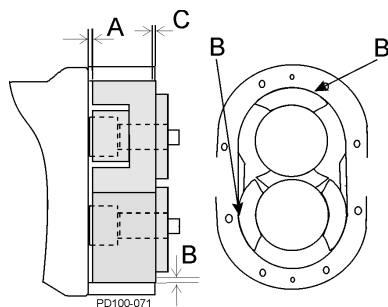

Figure 87 - Measure Clearance
9. Measure the rotor backface clearance (Figure 87, item A) through the port or from the front. The backface clearance for both rotors must be the same to prevent rotor crossover contact and must be ± 0.0005 " of the value found in **Table 4, "Standard Rotor Clearance,"** or Table 5, "Hot Rotor Clearance," on page 42.
10. Check the rotor front face clearance (Figure 87, item C).
11. Check the rotor to body clearance (Figure 87, item B).